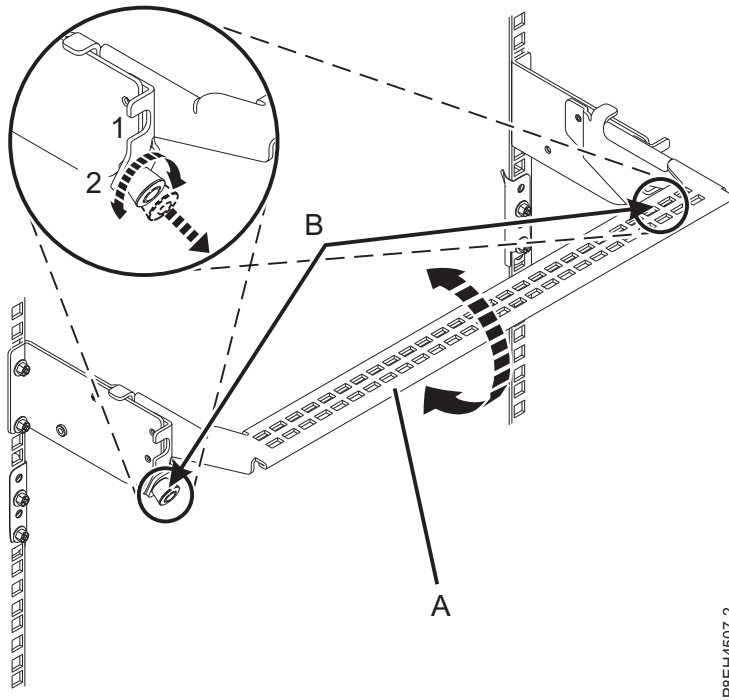

Figure 2. Placing the cable management bracket in the service position
3. At the rear of the EMX0 PCIe3 expansion drawer, put the cable management bracket in the service position. See Figure 2 on page 3.